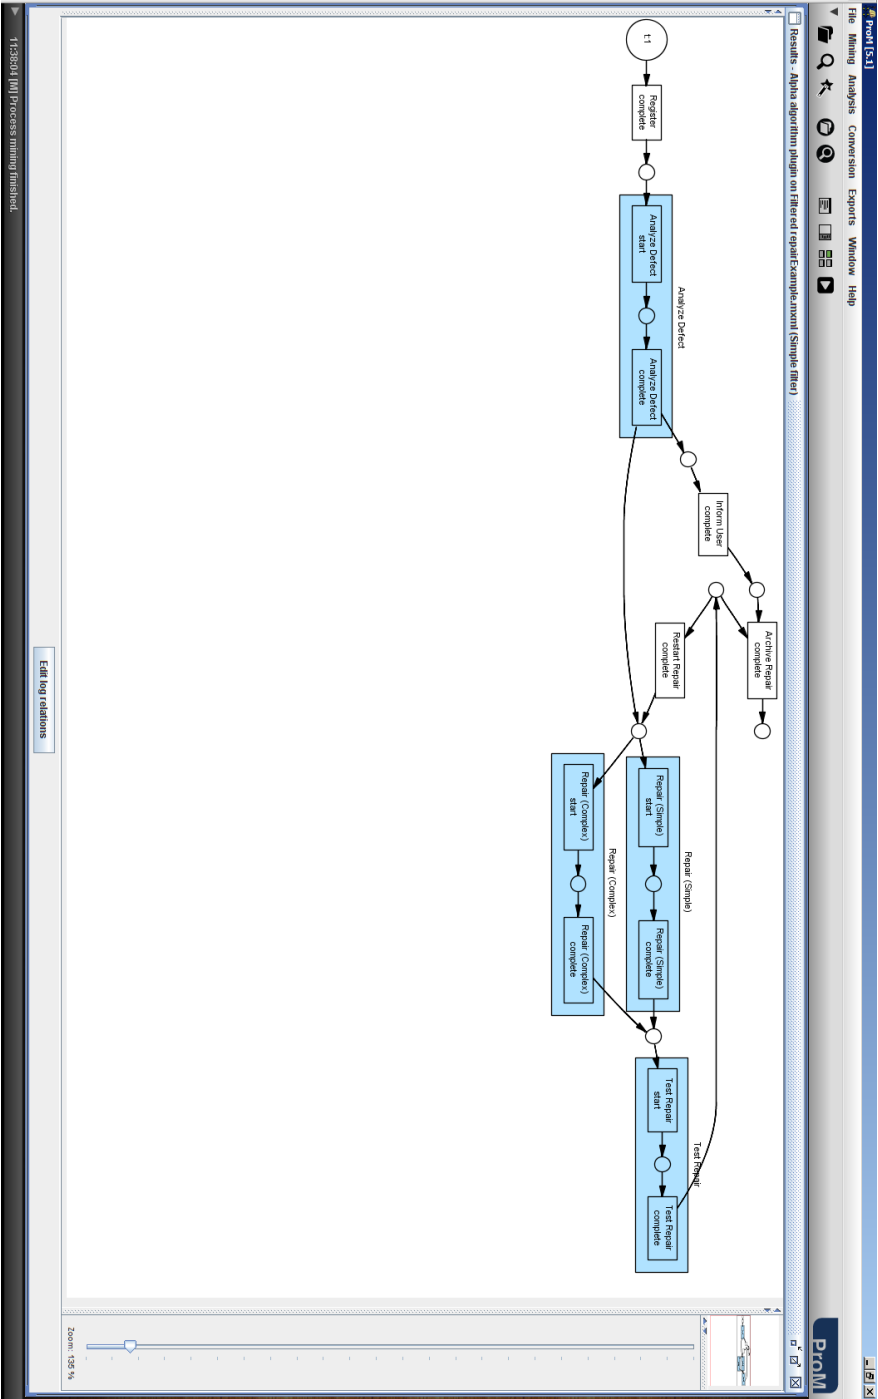

Figure 3.2: Screenshot of the mined model for the log of the running example.
4. Click the button *start mining*. The resulting mined model should look like the one in Figure 3.2. Note that the *Alpha algorithm plugin* uses Petri nets2 as its notation to represent process models. From this mined model, you can observe that:
The other remaining questions of the list on page 21 are answered by using the mining plug-in *Social Network* in combination with the analysis plug-in *Analyze Social Network*. For instance, in the context of our running example, we would like to check if there are employees that outperform others. By identifying these employees, one can try to make the good practices (or way of working) of these employees a common knowledge in the company, so that peer employees also benefit from that. In the context of our running example, we could find out which employees are better at fixing defects. From the process description (cf. Section 1.3) and from the mined model in Figure 3.2, we know that telephones which were not repaired are again sent to the Repair Department. So, we can have a look on the *handover of work* for the task performed by the people in this department. In other words, we can have a look on the handover of work for the tasks *Repair (Simple)* and *Repair (Complex)*. One possible way to do so is to perform the following steps: